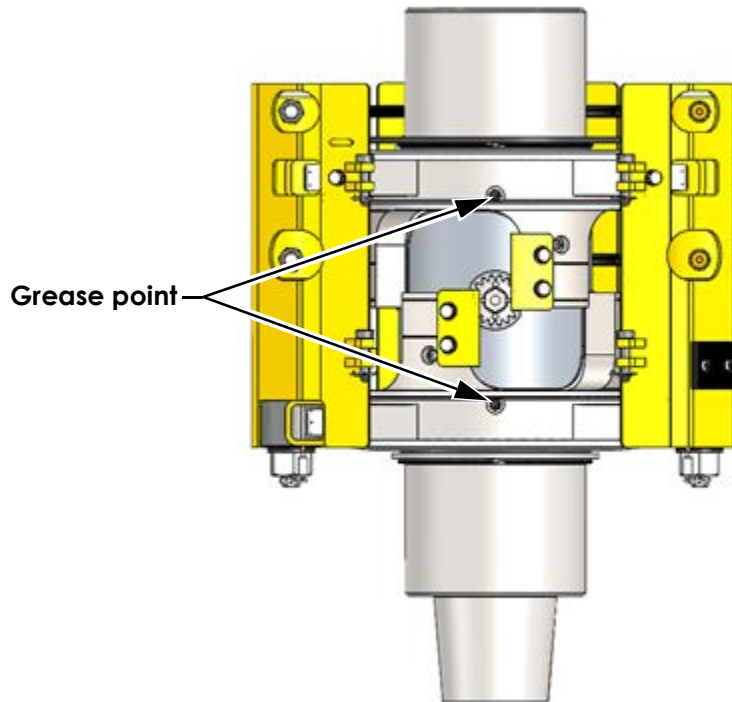

Figure 2: Bearing Greasing Location
2. Pump five shots of grease into each grease nipple on both bearings. See Figure 2. Use multi-purpose lithium complex grease, complying with N.L.G.I. classification No. 1 or No. 2. Rotate the bearings at least five revolutions to help distribute the grease throughout the bearing.